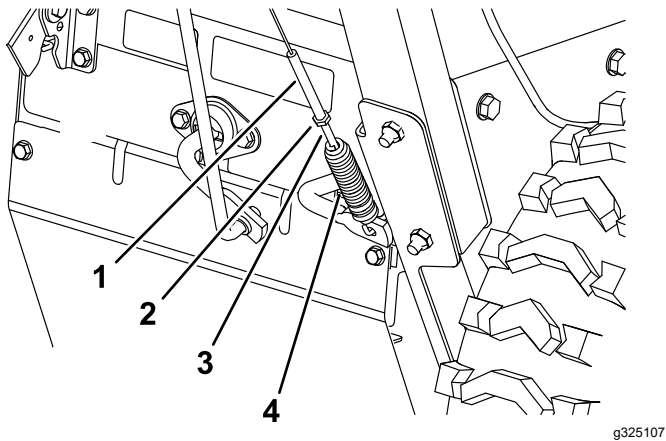
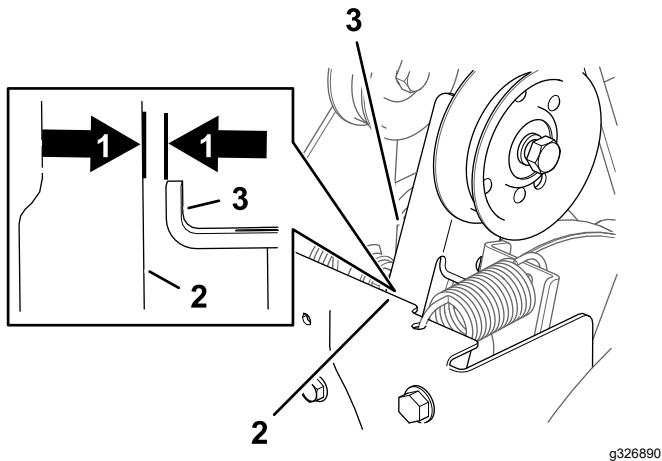

Figure 40
Figure 41
1. Loosen the jam nut (Figure 40).
2. Rotate the spring-tension adjuster until you measure a 1.5 mm (1/16 inch) gap between the frame and the broom clutch arm (Figure 40 and Figure 41).
3. Tighten the jam nut (Figure 40).